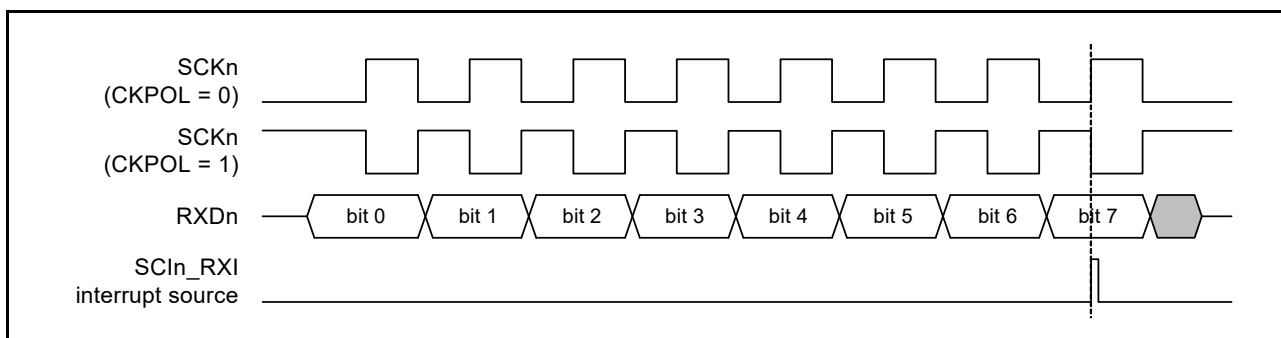

Figure 27.79 Timing of SCIn\_RXI interrupt in simple SPI mode with clock delay
(1) Master mode
- For the clock delay setting (SPMR.CKPH bit is 1), the receive data full interrupt (SCIn\_RXI) is generated before the final clock edge on the SCKn pin, as indicated in Figure 27.79. If the TE and RE bits in the SCR register become 0 before the final edge of the clock signal on the SCKn pin, the SCKn pin is placed in the high-impedance state, so the width of the last clock pulse of the transfer clock is shortened. Additionally, an SCIn\_RXI interrupt might lead to the input signal on the SSn pin of a connected slave going to the high level before the final edge of the clock signal on the SCKn pin, leading to incorrect operation of the slave.